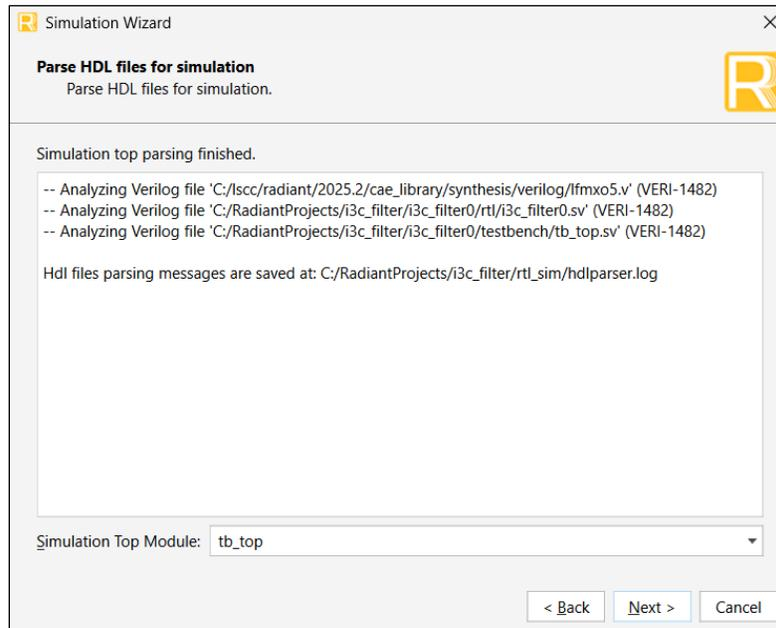

Figure 7.6. Selecting Simulation Top Module
3. Click **Next**. Select **tb_top** as **Simulation Top Module** in the **Parse HDL files for simulation** window as shown in Figure 7.6.